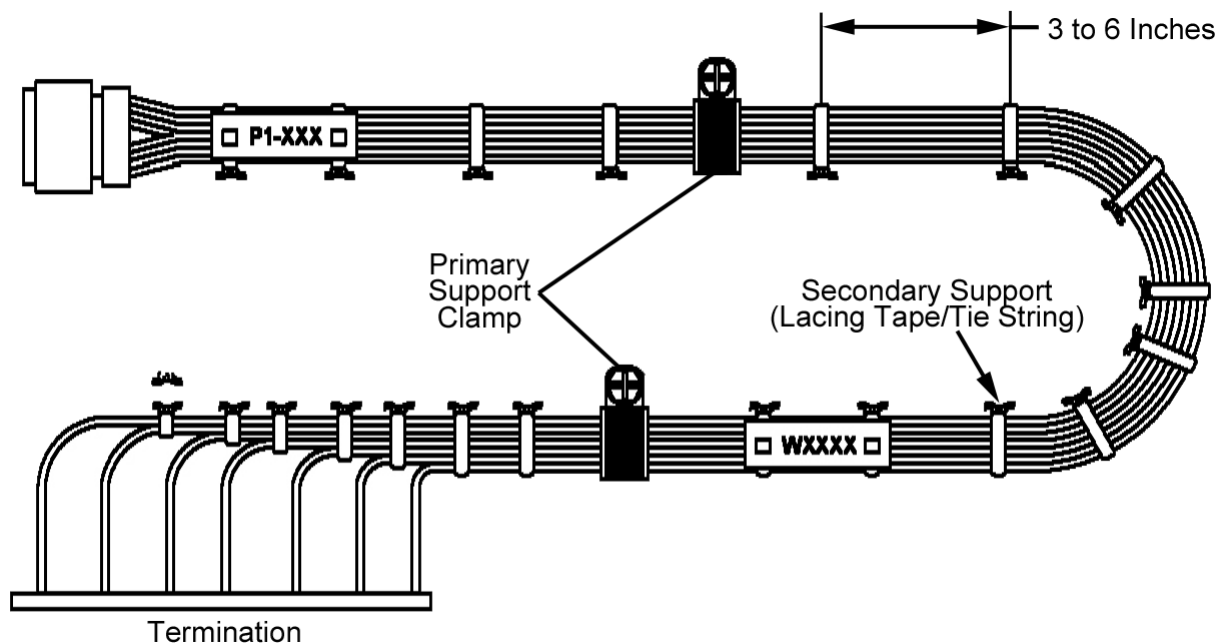

Figure 1. Typical Open Harness Installation
2. This Work Package (WP) provides general instruction for the removal and installation of a harness or cable from the aircraft for the purpose of repair. When available, maintenance personnel should always look first to the aircraft specific maintenance manual for guidance. The information provided herein should not be used for design or modification on the electrical wiring. Design and modifications should be performed in accordance with SAE-AS50881.
5. **OPEN HARNESS.** Open harnesses are preferred for maintenance considerations. The wires or cables within the harness are uncovered which enables visual inspection and ease of repair when necessary (Figure 1).
a. Make sure all connecting points have identifying markers. If the marker is not present, replace the lost marker (WP 008 00). This includes each wire when singular contacts must be removed (Figure 1).
g. Make sure all connecting points have identifying markers. If the marker is not present, replace the lost marker (WP 008 00). This includes each wire when singular contacts must be removed (Figure 1).